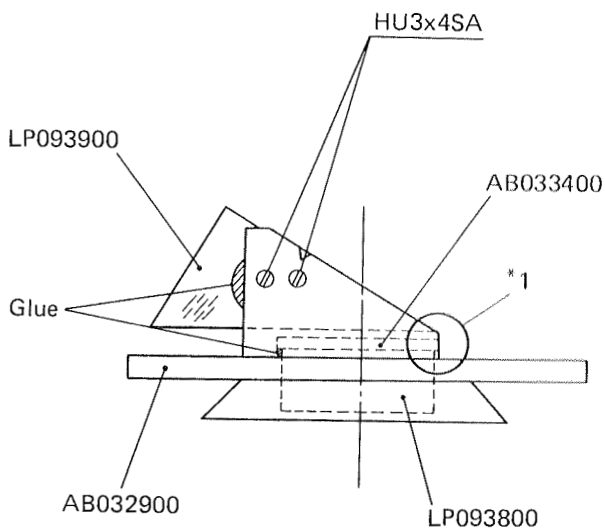

Fig. 11-11
(See Fig. 11-11)
- e) If centration is impossible by adjusting position of the Prism Mount, check Prism P2 for its assembly. (See Fig. 11-11)